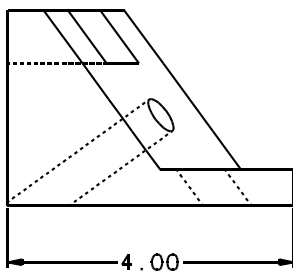

Figure 29
- Figure 29 shows the location of the 4.00 dimension.